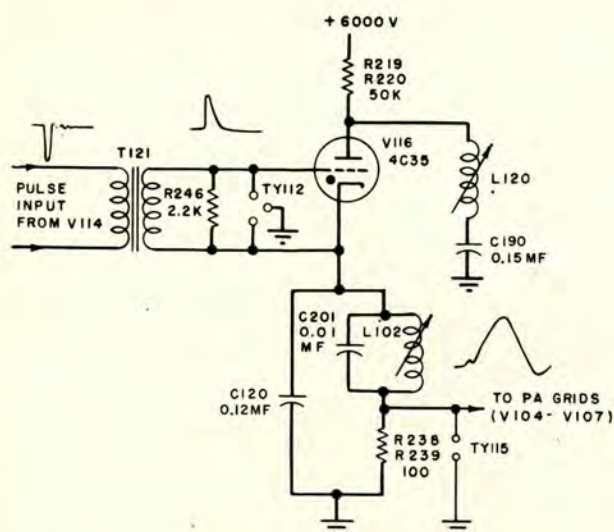

Figure 2-6. Simplified Schematic Diagram of Modulation-Pulse Generator (Part of Exciter A)
(2) CIRCUIT ANALYSIS. — Figure 2-6 is a simplified schematic which shows the essential elements of the modulation pulse generator in Exciter A. For complete circuit details of both Exciter A and Exciter B pulse formers, refer to figure 7-38.
As shown in figure 2-6, the pulse generator utilizes a type 4C35 thyatron (V116) which, with zero bias, 6,000 volts on its plate, and no signal input, is normally extinguished. During the nonconducting period, capacitor C190 charges through current-limiting resistors R219 and R220 to the 6,000-volt plate potential supplied by the high-voltage rectifier (paragraph 11c). The combination of capacitor C190 and inductance L120 forms an oscillatory circuit.